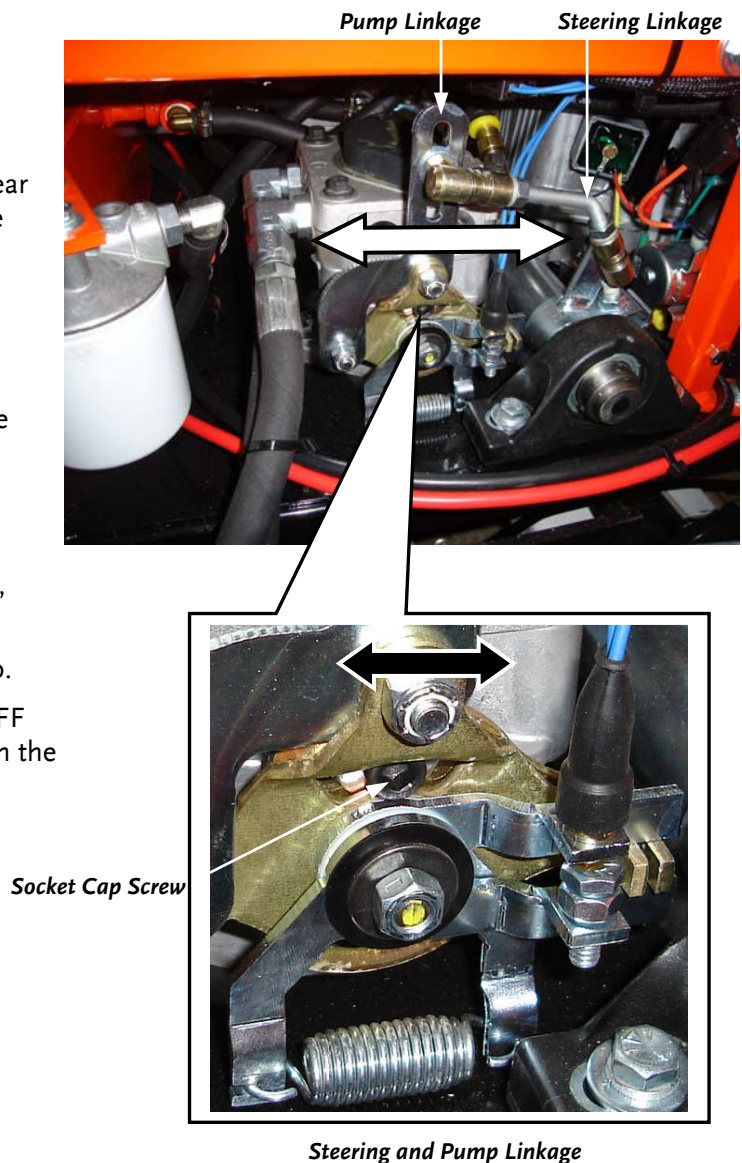

Figure 30
It is important to maintain proper adjustment of the Steering Linkage so that the each Handle reaches Neutral at the same position. **Figure 30** shows the location of the Pump Linkage on the Hydraulic Pumps, which you can adjust to achieve the correct setting.
2. Loosen the Hex Socket Cap Screw at the bottom of the Pump Linkage on each Hydraulic Pump (**Figure 30**).